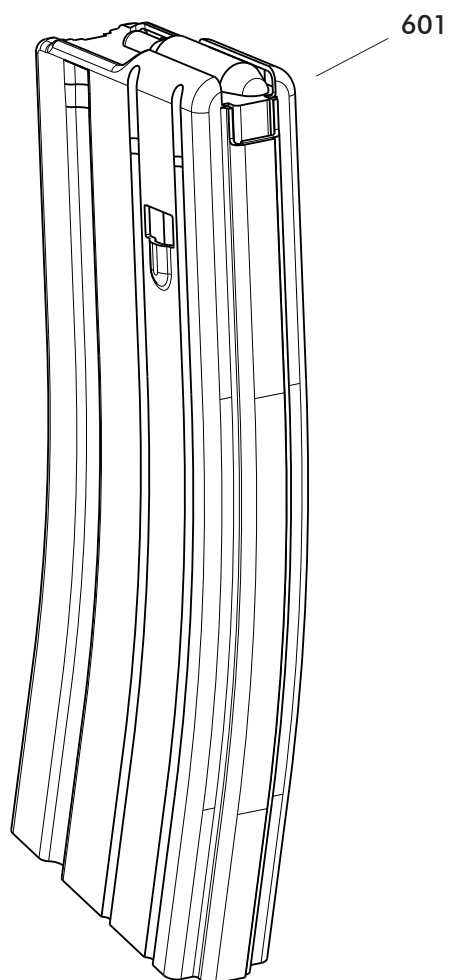

Fig. 2.g - Magazine 30 cartridges (601)
The hammer group assembly (510) contains the hammer which actuates the firing pin (427 - see figure 2.e) when the trigger is pulled.
**2.2. PARTS LISTS (CONTINUED)****2.2.6. Magazine****(a) List of parts (Fig. 2.g)**